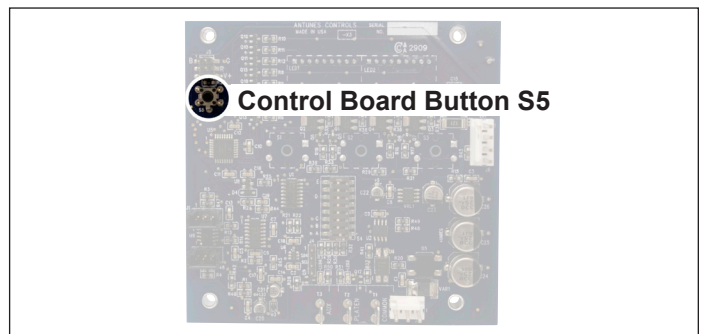

Figure 3. Control Board Button
13. Verify the new Control Board is installed correctly by pressing and holding the Control Board Button (Figure 3) while turning the power switch on